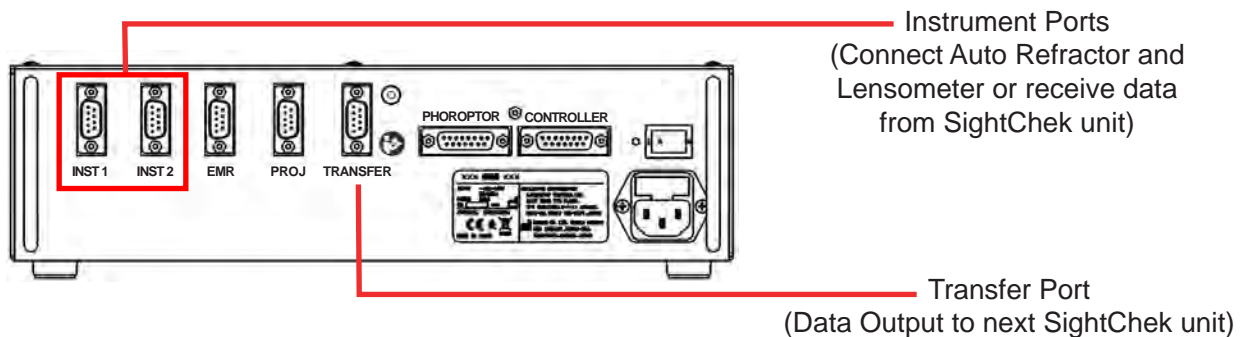

Figure IS-21 Multiple SightChek Systems Set-Up
2. Connect the Relay Box of the first SightChek to the Relay Box of the SightChek next in line, using a cable or Bluetooth dongle connection, according to the cables specified in **Appendix A**. The Transfer port on the first SightChek is the data output port, and the Inst1 port on the next SightChek receives the data. Refer to Figure IS-21.